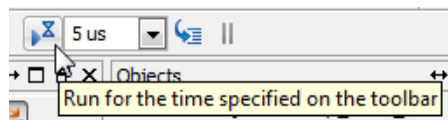

Figure 4-12: Simulation Time Field
1. In the ISim menu toolbar, type **5 us** in the Simulation Time field and press **Enter**. (Refer to Figure 4-12).